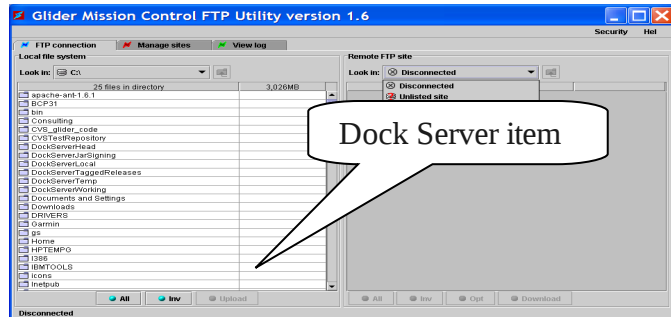

Figure 9-5. Connecting to a Dock Server.
1. Select the item labeled “GMC” followed by your Dock Server machine name in the pull-down labeled “Look in”. Figure 9-5 shows the GMC FTP application connecting to the Dock Server named “expose”.
Figure 9-5 shows the GMC FTP application connecting to the Dock Server named “expose”.